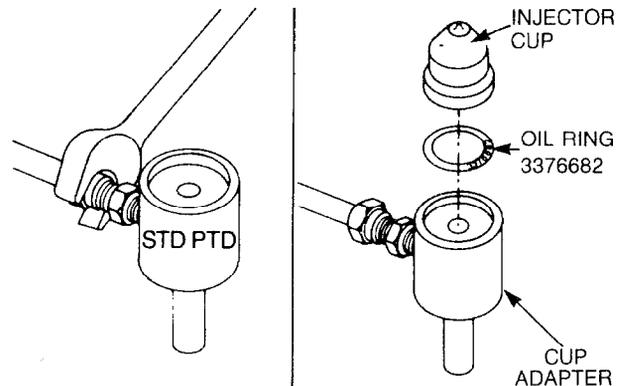

Figure 87 — Injector Cup Adapter
- ab. Install the cup adapter STD PTD and O-ring onto the tester oil supply hose and position the oil ring 3376682 into the cup adapter, then install the injector cup into the adapter (see Fig. 87).